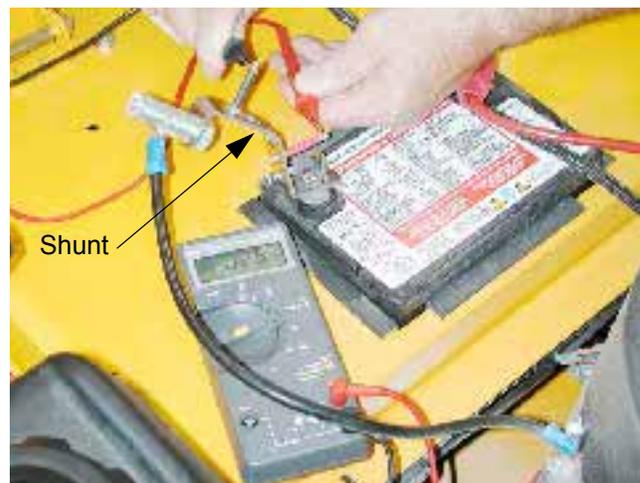

Figure 10.22
10.22. The reading on the DVOM will vary with the state of charge of the battery. The charging system is rated at 13 Amps. If the battery is in need of charge, the reading on the DVOM may be as high as 11 Amps D.C., if the battery is fully charged, a reading in the vicinity of 3 amps DC is likely. See Figure 10.22.